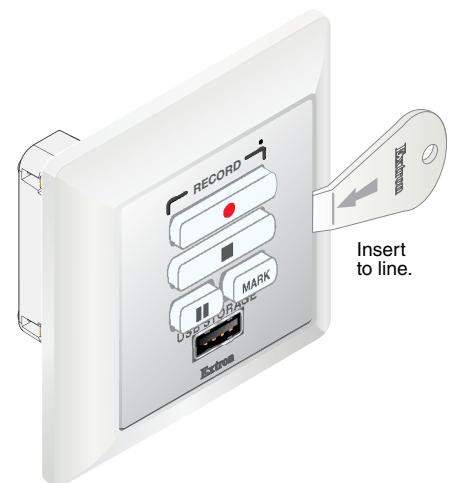

Figure 6. Removing the RCP 101
2. Use the Extron removal tool to release the catches on either side of the control plate (see figure 6, on the right).